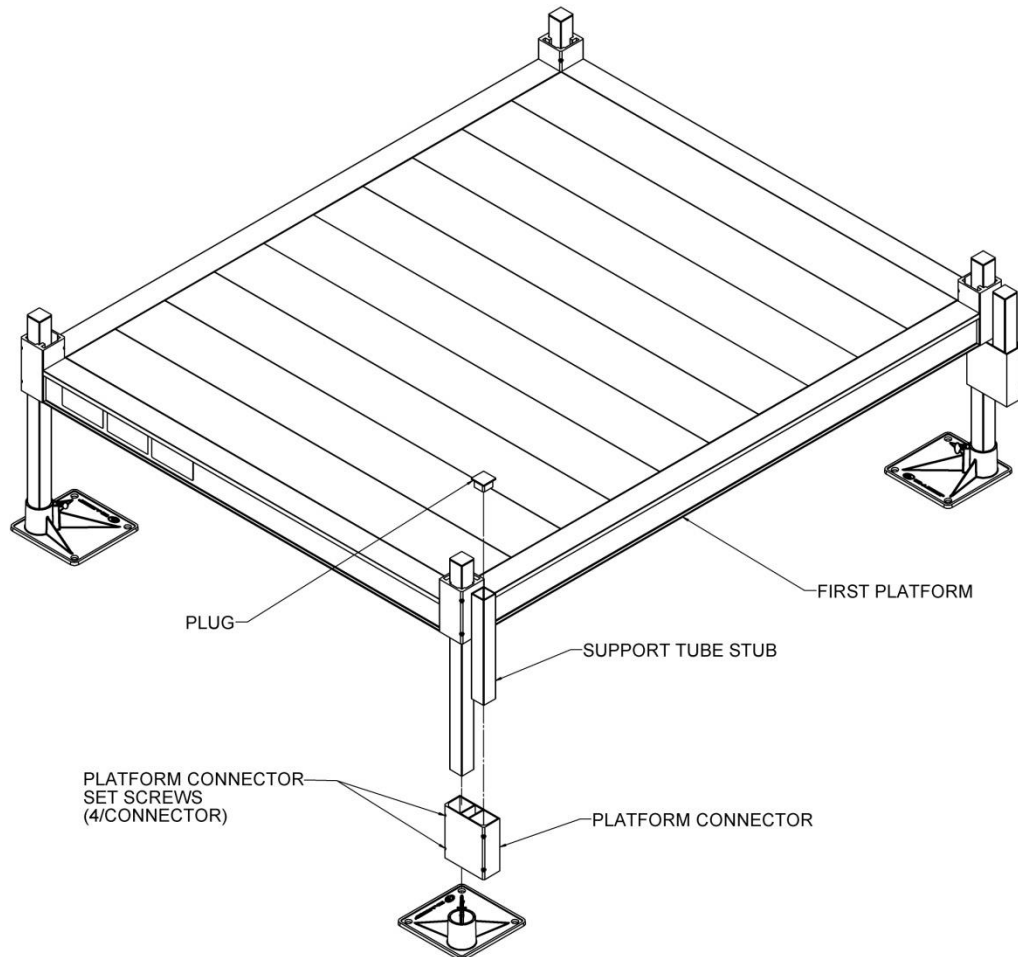

FIG. 2.5
- 2.3.2. Slide the platform connectors up until they contact the bottom of the platform and tighten the set screws securely (FIG. 2.5).